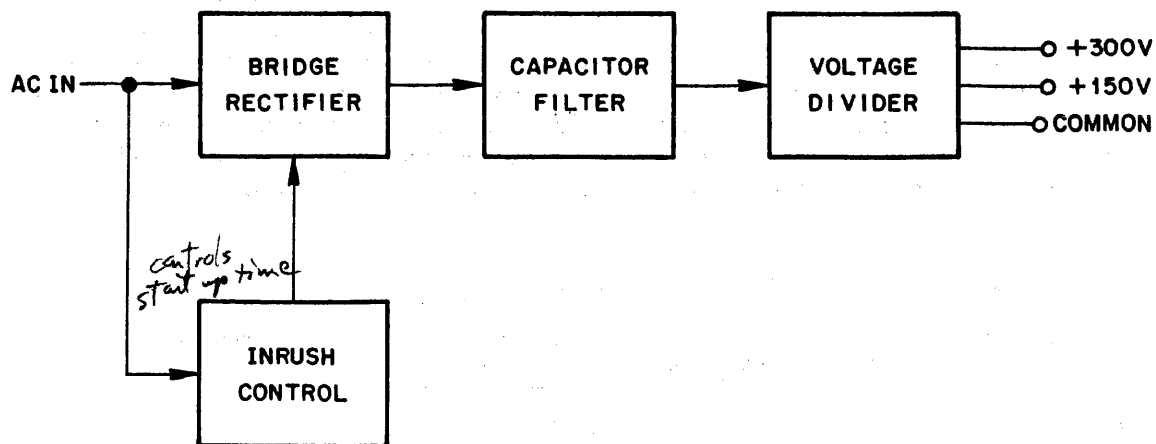

Figure 2-4. +300 Volt Supply Block Diagram
The +300 volt supply (figure 2-4) consists of a full-wave bridge rectifier operating directly from the ac power line and filtered by output capacitors. A voltage divider produces an additional output of +150 volts. Two legs of the bridge are comprised of silicon-controlled rectifiers for which the firing time is determined by an inrush control circuit. This circuit is designed to provide a "slow start" by enabling the bridge rectifier for progressively longer portions of each ac cycle until full operation is reached. The rate of operation of the inrush control circuit is determined by a resistor/capacitor (RC) time constant network, and is fixed. The inrush control circuit incorporates a reset feature that ensures a slow start will occur again in the event of a power interruption. An interlock is provided that closes a bleeder circuit across the +300 volt output when the top cover of the Logic Power Supply is removed. The supply can be operated when this cover is removed.